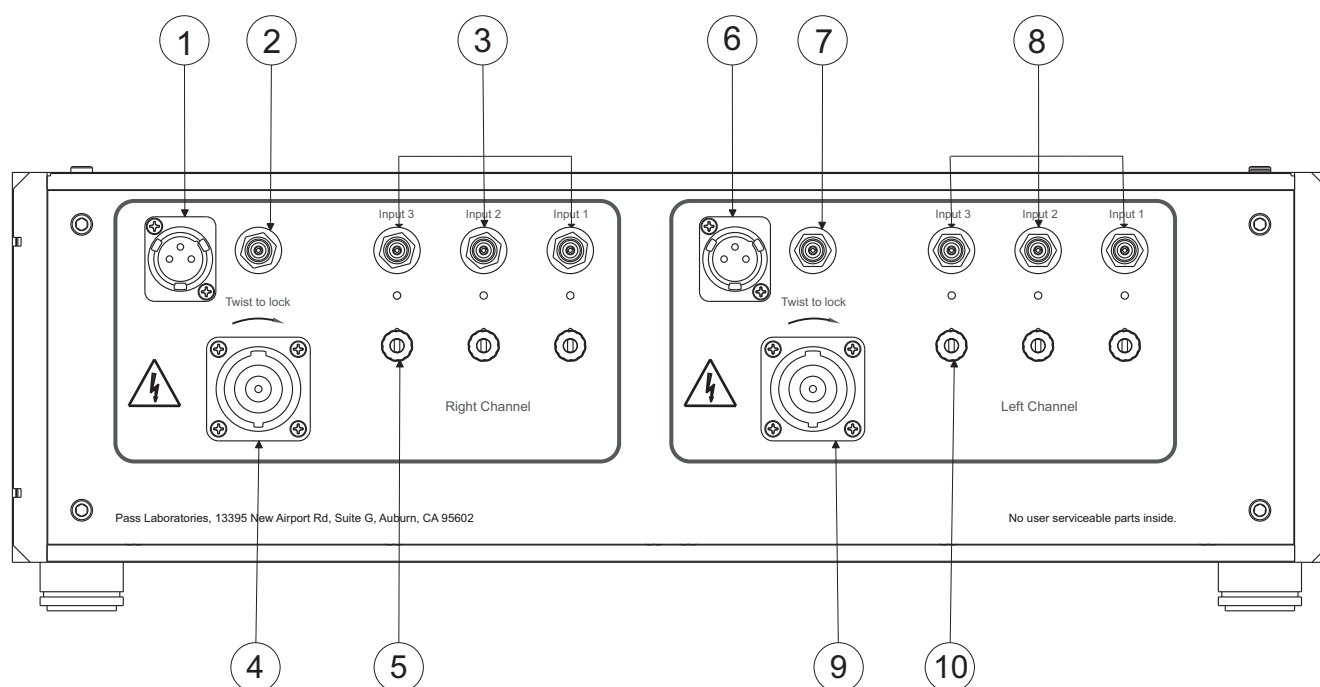

Figure 2.
b) Connect and the other ends of the cables to the gain chassis (FIG 2, #11, #13)